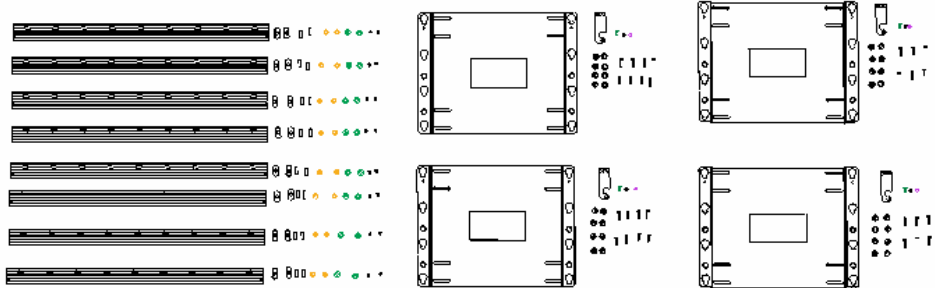

Figure 1
**BEFORE PROCEEDING:**     Unpack each carton; verify contents shown in Figure 1. If you are missing any of the listed components, please contact Customer Service at 1-800/582-6480. Disregard individual installation instructions in PSM-2042s and PAC-126s. Follow this instruction manual for installation of PSM-2046 for your NEC 84" screen array.